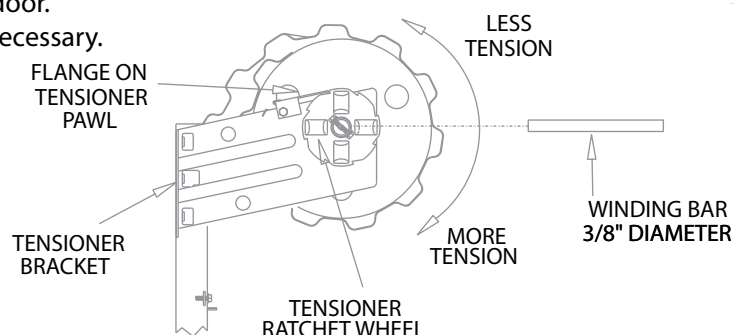

FIGURE 11
- Place 3/8" diameter winding bar in tensioner ratchet wheel. **See figure 11.**